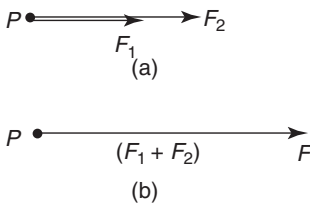

Figure 3.5
- (a) For forces acting in the same direction and having the same line of action, the single force having the same effect as both of the forces, called the **resultant force** or just the **resultant**, is the arithmetic sum of the separate forces. Forces of F_1 and F_2 acting at point P , as shown in Figure 3.5(a), have exactly the same effect on point P as force F shown in Figure 3.5(b), where $F = F_1 + F_2$ and acts in the same direction as F_1 and F_2 . Thus F is the resultant of F_1 and F_2